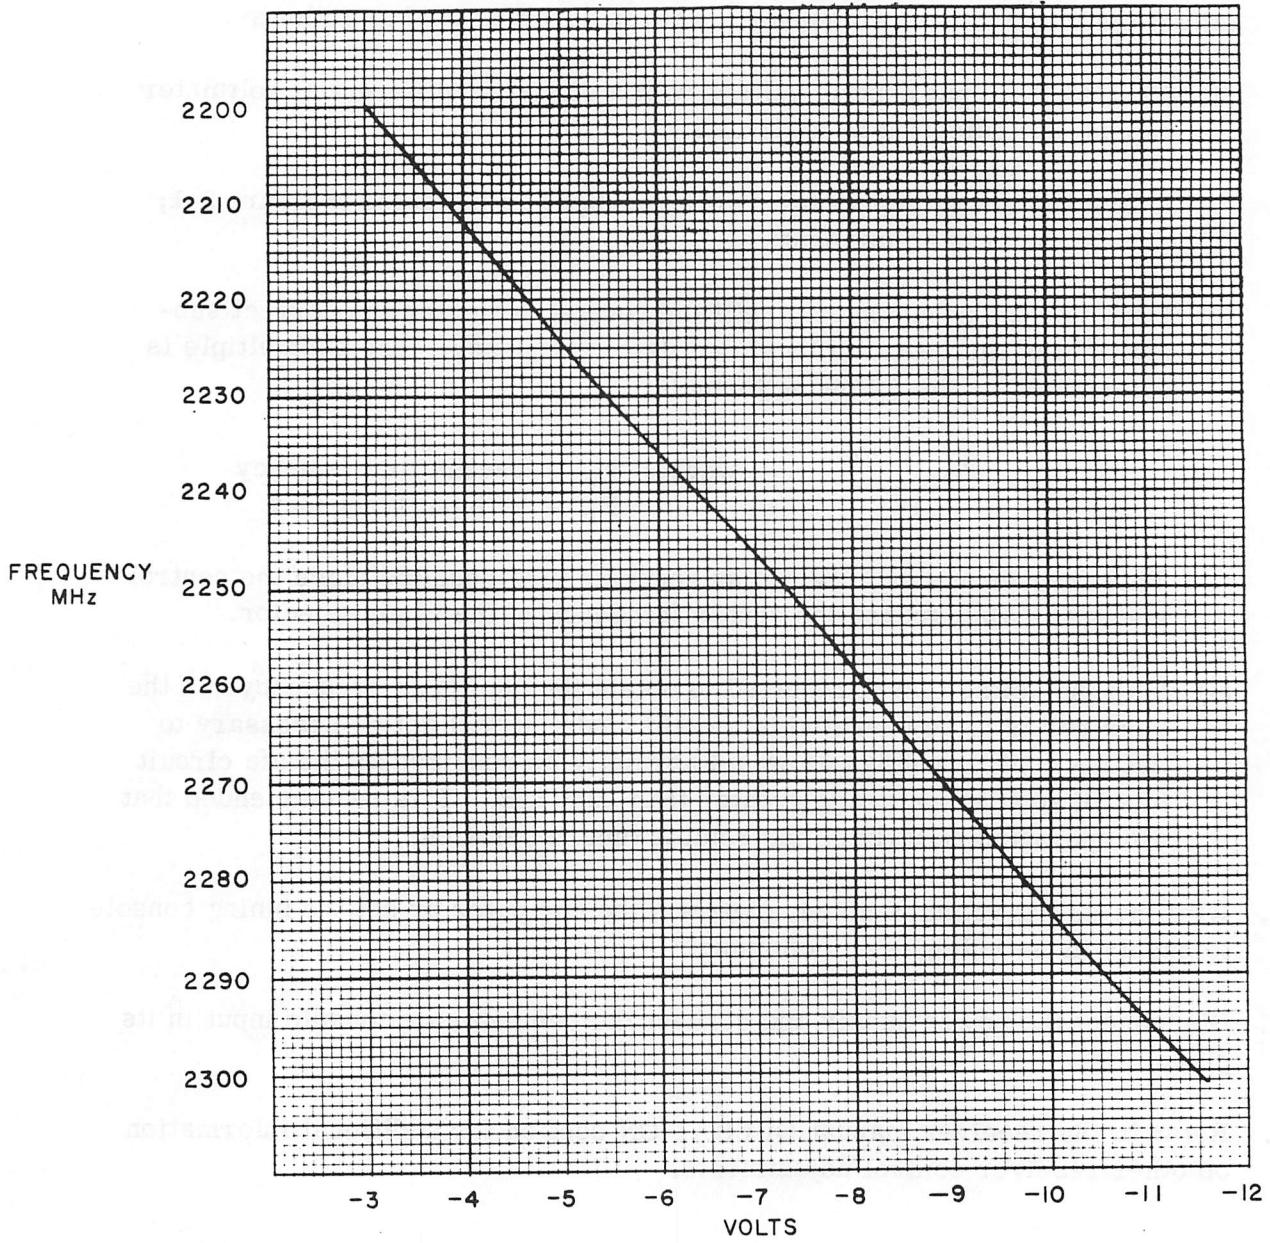

Figure 3-1. Remote Input vs. Frequency
- (1) Monitor the input control voltage with a digital or differential voltmeter capable of indicating in millivolts.
- (2) Adjust the power supply for a voltage output as indicated in figure 3-1; this is a coarse adjustment.
- (3) Fine tune the power supply until the counter indicates the correct sub-multiple of the required local oscillator frequency. The submultiple is determined by the following formula: